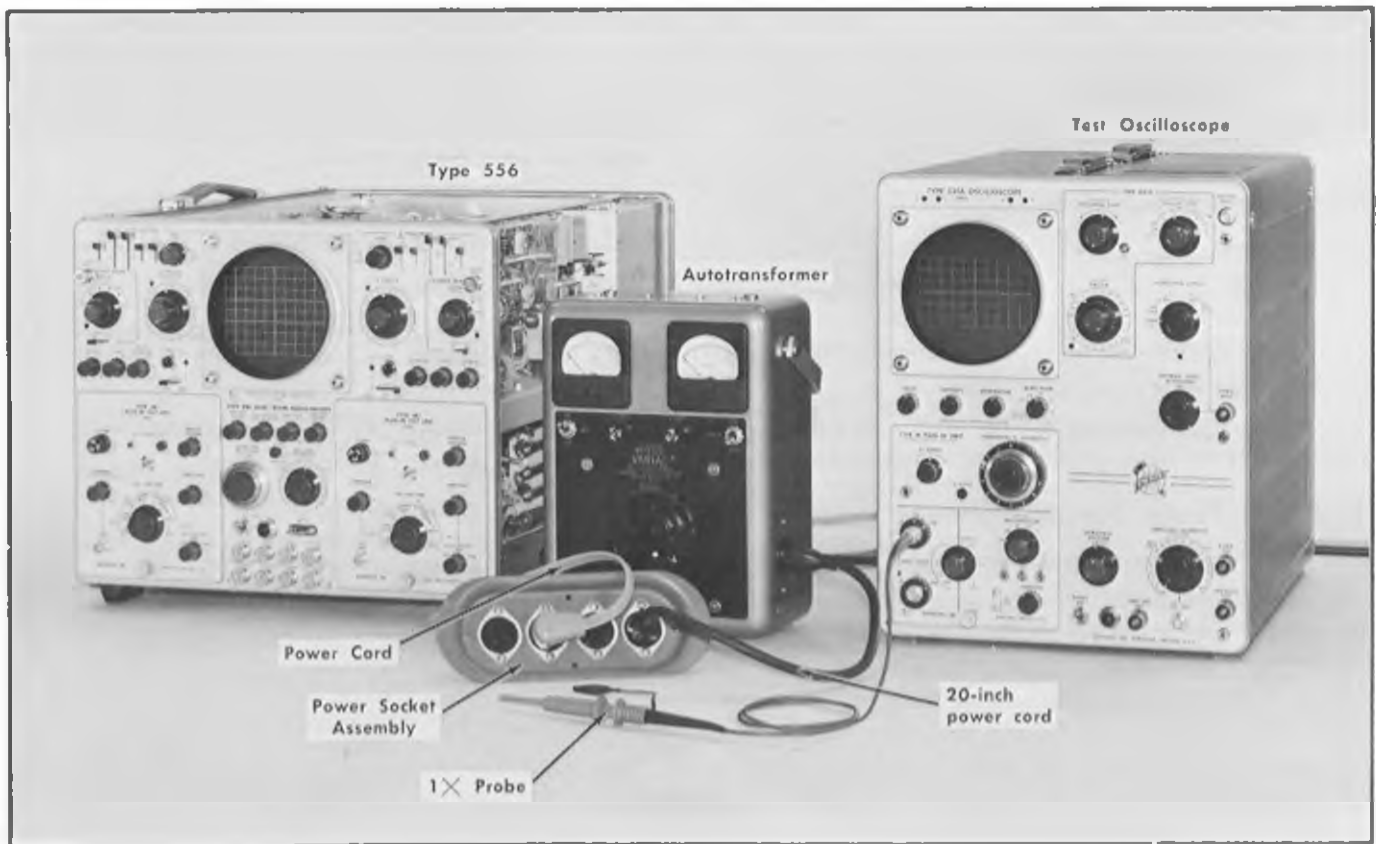

Fig. 6-5. Initial test setup for checking power supply ripple and regulation.
a. The initial test setup is shown in Fig. 6-5. Type 556 controls remain as in Step 1; other control settings are as follows:
b. Connect the 20-inch power cord between the autotransformer and the power socket assembly, and connect the Type 556 power cord to the power socket assembly, as shown in Fig. 6-5.